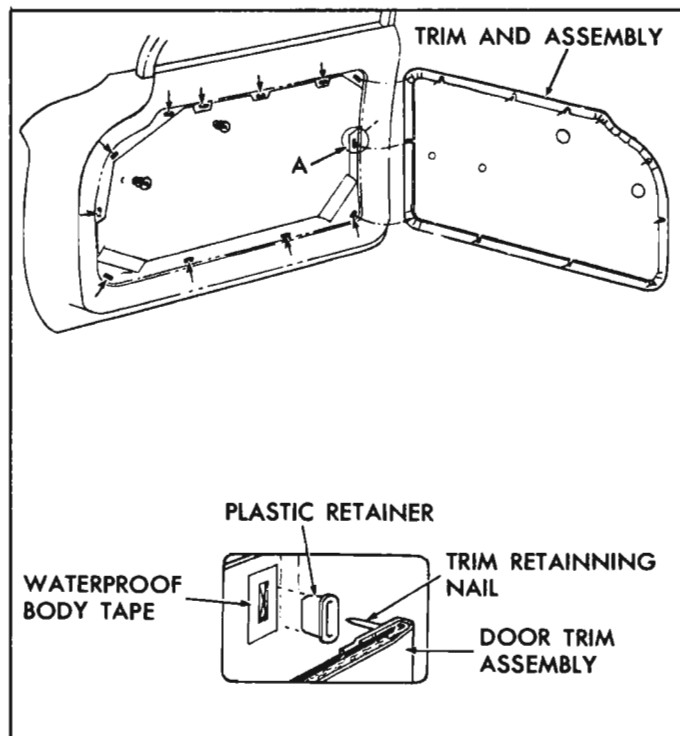

Fig. 10-39—Door Trim Installation
of the door trim assembly. The nails, however, are pressed or tapped into a new trim assembly plastic retainer which fits into a slot in the door inner panel and firmly holds the door trim assembly in position (fig. 10-39).
1. Apply masking tape to door inner panel at trim assembly retainer locations shown in Figure 10-39 to avoid paint damage when pad is removed.
If plastic retainers are loose and will not remain engaged in door inner panel, install a 1/2" x 3/4" piece of cloth backed waterproof body tape over retainer hole in inner panel as shown in View "A," Figure 10-39. Make two (2) slits in tape to form an "X" pattern. Check retainer for snug fit. If retainer is still loose, re-